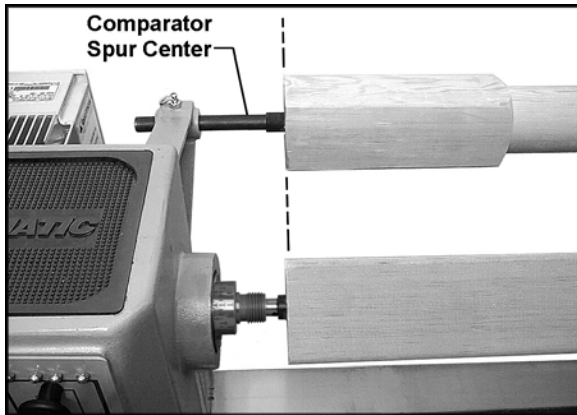

Figure 29
- Install comparator *spur center* into guard bracket, by lifting up on plunger and inserting comparator spur center until its point is about even with the point of the spur center in the headstock spindle. See Figure 29. The plunger in the bracket should engage one of the holes in the comparator center at this position.